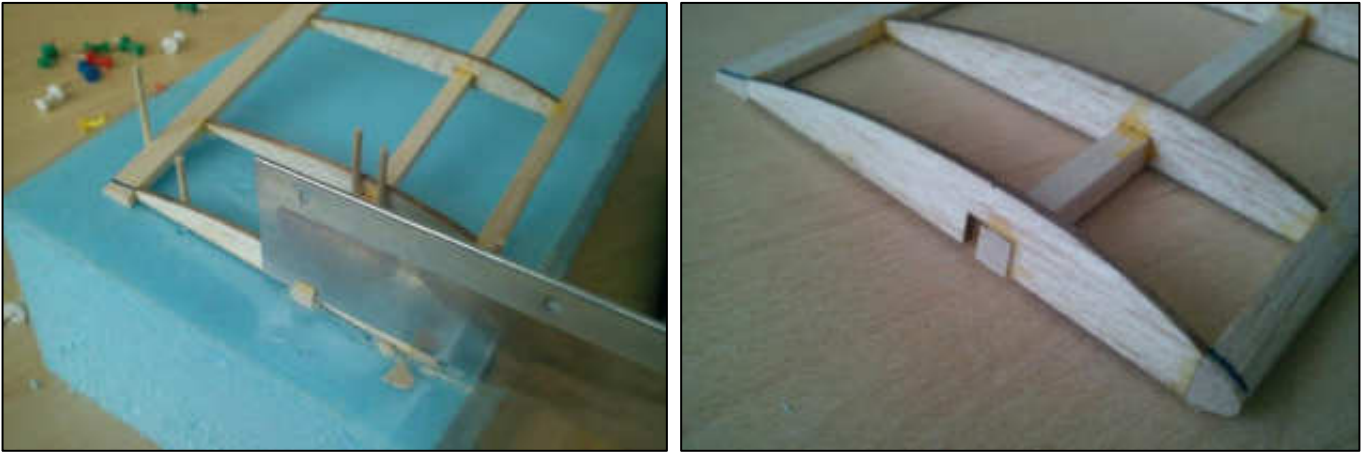

Figure 10: Remove excess wood from the wing root.
10. Once the glue has dried, use the saw to remove the excess wood, Figure 10. Repeat for the second wing.